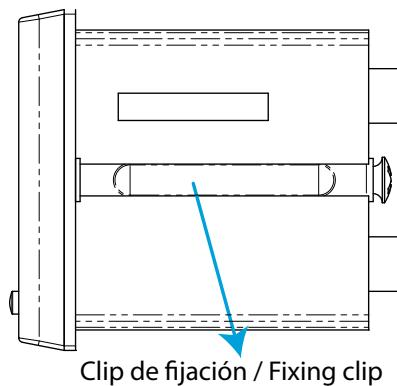

Figure 2: Installation.
- 2.- Remove the device's fixing clips (**Figure 2**).